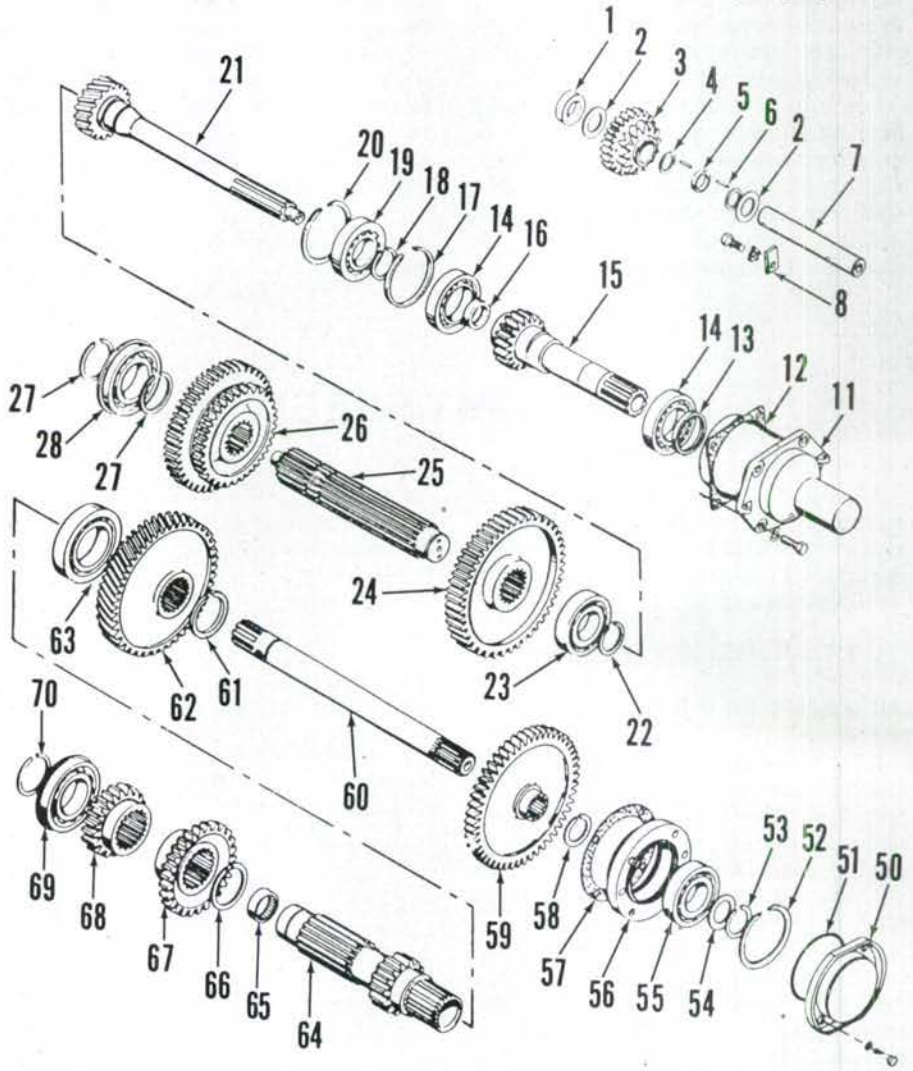

Fig. 126—Exploded view of six-speed transmission, gears, shafts and related components. Planetary unit is shown in Fig. 124.
122. To remove input shafts (15 and 21—Fig. 126), it is first necessary to remove transmission from tractor as outlined in paragraph 119. Remove brake cross shaft and clutch release bearing and fork. It is also necessary to move pto lower shaft (60) rearward to allow pto gear (59) to drop down into case to provide clearance for removal of input shafts and retainers as an assembly; proceed as follows: Remove cover plate (50) at front of pto shaft. Remove snap ring (53) from shaft, then thread two cap screws into tapped holes in bearing housing (56) to force bearing and bearing from shaft. Pull pto shaft rearward until pto gear drops to bottom of case. Remove cap screws attaching input shaft retainer (11) to case, then withdraw input shafts and retainer as an assembly.
123. To remove mainshaft (25—Fig. 126) and sliding gears, first remove transmission assembly as outlined in paragraph 119. Remove shift forks and rails as outlined in paragraph 120,
124. The reverse idler gear (3—Fig. 126) and shaft (7) can be removed after removing the mainshaft as outlined in paragraph 123.
125. To remove pto lower shaft (60—Fig. 126) and gears, first remove transmission assembly as outlined in paragraph 119. Remove brake cross shaft, clutch release bearing and fork, and shift rails and forks. Remove front cover plate (50). Remove snap ring (53) from front of pto shaft, then thread two cap screws into tapped holes in bearing retainer (56) to force retainer and bearing off the shaft. Pull shaft rearward out of the countershaft. Unbolt and remove input shafts (15 and 21) and retainer (11) as a unit from housing. Lift pto gear (59) from transmission case.
126. To remove countershaft (64—Fig. 126) and gears, transmission must first be removed as outlined in paragraph 119. Remove shift rails and forks, planetary unit, pto lower shaft and gear, input shafts and retainer, and mainshaft as outlined in preceding paragraphs.